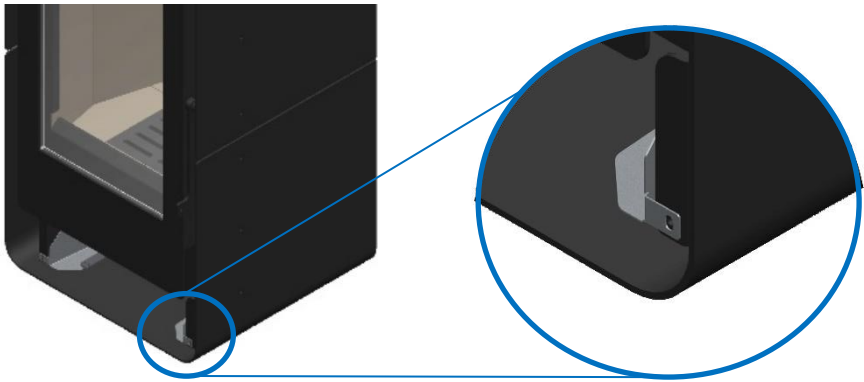

Figure 39 – Fixing the ventilation kit to the Tek Round Eco stove
* Fix the ventilation kit (figure 39);